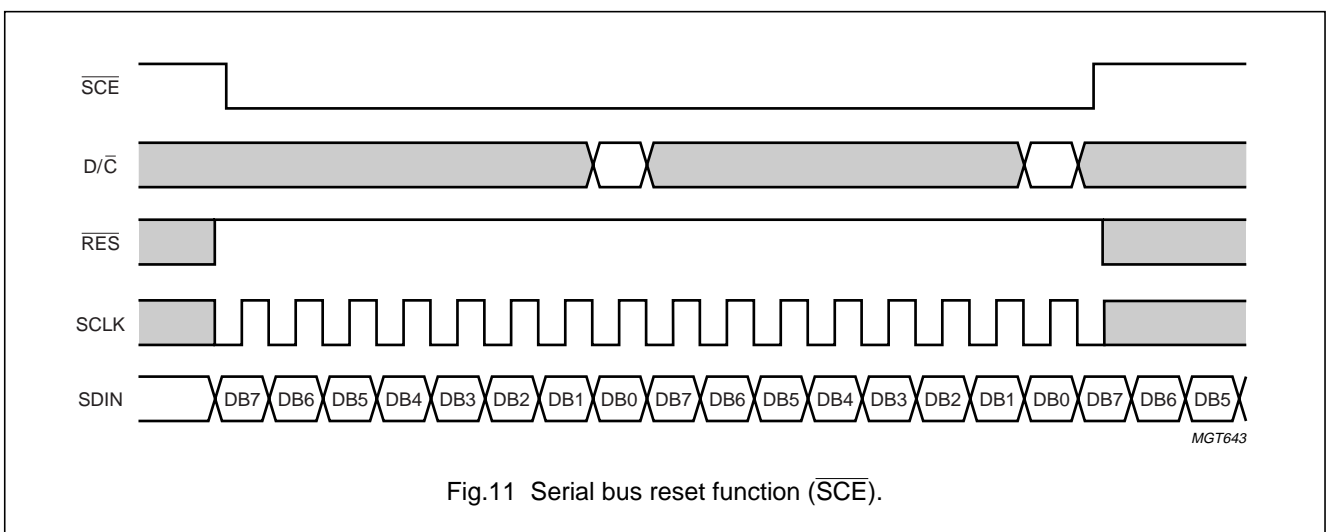

Fig.11 Serial bus reset function (\overline{SCE}).
- When \overline{SCE} is HIGH, SCLK clocks are ignored. During the HIGH time of \overline{SCE} the serial interface is initialized (see Fig.11).
- If \overline{SCE} stays LOW after the last bit of a command/data byte, the serial interface expects bit DB7 of the next byte at the next rising edge of SCLK (see Fig.11)